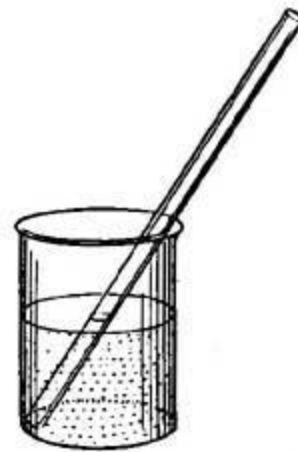

FIG. 41.—The water in the tube is at the same level as that in the glass.
77. **Air Pressure.** If an empty tube (Fig. 41) is placed upright in water, the water will not rise in the